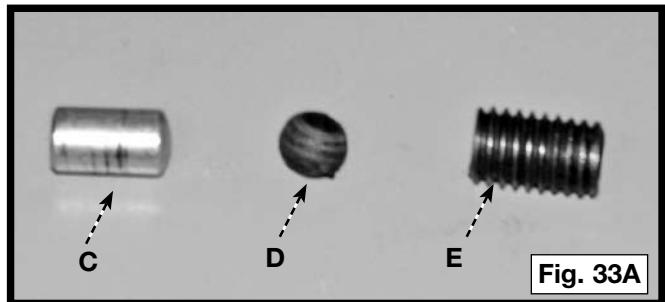

Fig. 33A
A friction pin (C) and a compression ball (D) are located behind anti-drop set screw (E) Fig. 33A and Fig. 33B and these can be adjusted to prevent the upper guide assembly from quickly dropping and damaging the workpiece or the table. To adjust: